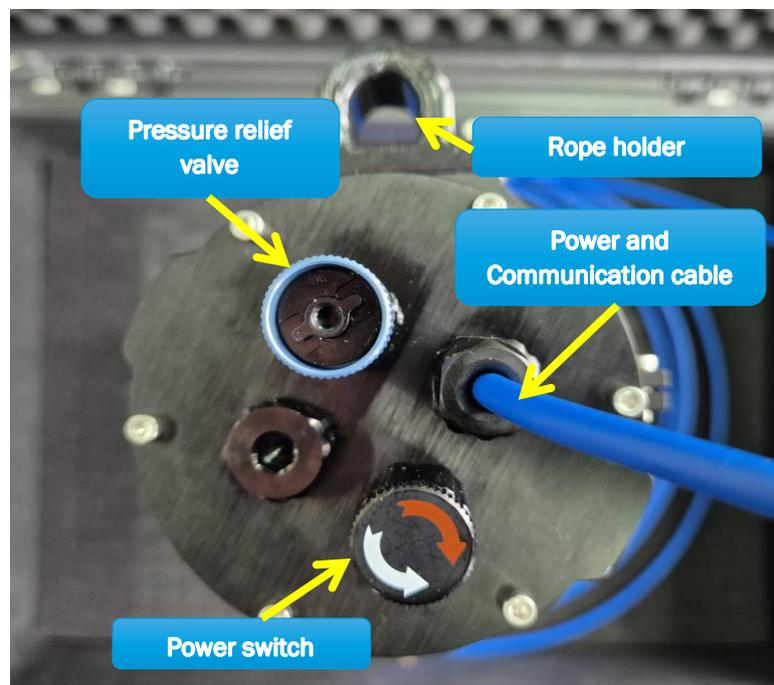

Figure 1. Device's Front Panel.
1. **Secure** the device to a **rigid non-ferromagnetic mounting frame**. Be careful **not to mechanically stress the device's cable**. In case of using the device **without a mounting frame**, secure a rope through **both the rope holder** (shown in Figure 1) and the included **cable tether** that is already tied to the cable.
4. **CAUTION: Check** that the **pressure relief valve** (shown in Figure 1) is placed on the device and is fully **tightened**. If not, tighten it by rotating it clockwise by hand. Otherwise, the device will be flooded and permanently damaged!
6. **Power on** the device by rotating the **ON/OFF circular Power switch** (shown in Figure 1) clockwise by hand.